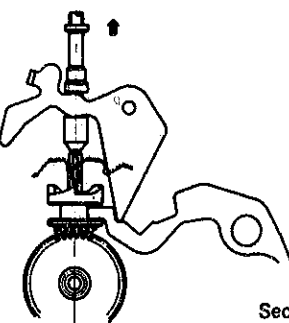

Fig. 3
- ☆ 884013 (Refer to fig. 3) Used only for models with rotating dial ring.
Second click — Hand setting (Fig. 3)